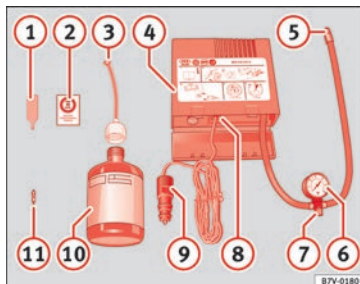

Fig. 96 Standard representation: contents of the anti-puncture kit.
» **Fig. 96:**
Screw the inflator tube »» Fig. 96 ⑤ again and check the pressure on the gauge ⑥.